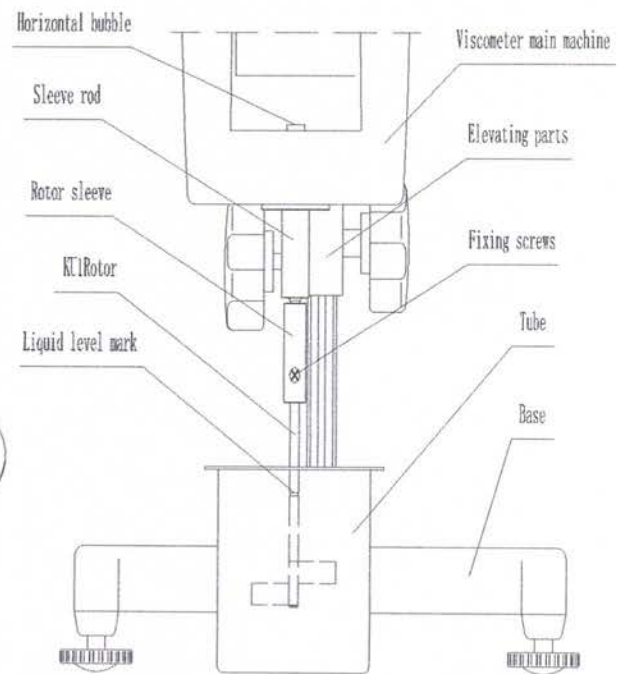

Fig. 12
(2) Rotate the elevating knob to lower the instrument slowly, immerse the rotor into the sample and align the liquid level mark (the concave or convex line on the rotor pole) to the level of the tested liquid. See details in Fig. 12.
(3) Check if the front level meter of the instrument is at the level position.
(4) Make sure everything is well prepared and then click "Run" to test the viscometer directly.